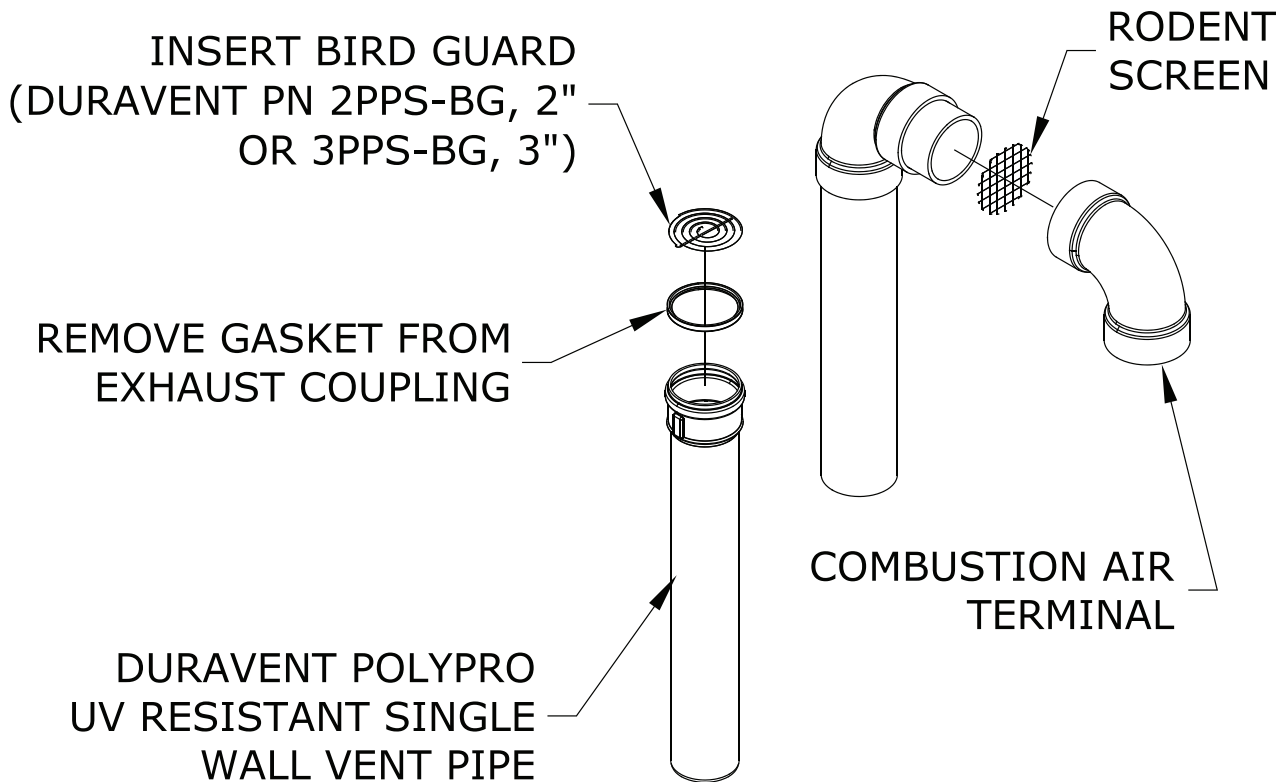

Figure 7.37: Installation of Duravent PolyPro UV Resistant Single Wall Vertical Terminal
- a. See Figure 7.37 for the proper orientation of twin pipe vertical terminals.
- c. A 180° bend (or two 90° elbows) are installed on the top of the air intake pipe. If two 90° elbows are used, a rodent screen can be installed between them (Figure 7.37). If a 180° bend is used, install a rodent screen in the open side of the bend, using a ring made of PVC pipe. If desired, the termination fittings can be attached to the end of the intake pipes with field supplied stainless steel screws so that they can be later removed for cleaning and inspection. If this is done, drill a clearance hole in these fittings and a tap hole in the end of the intake pipes to accept these screws.